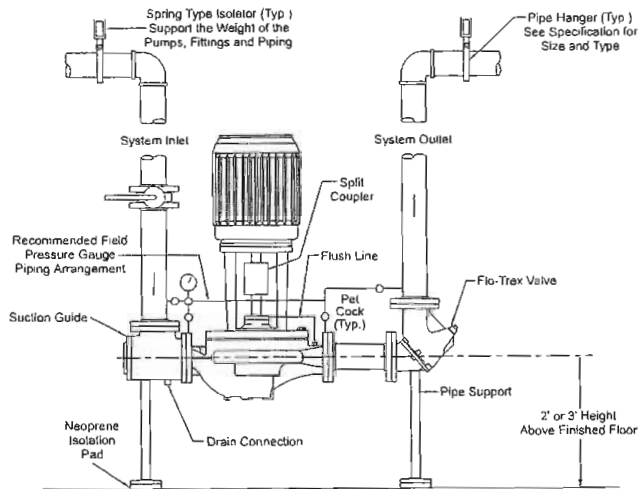
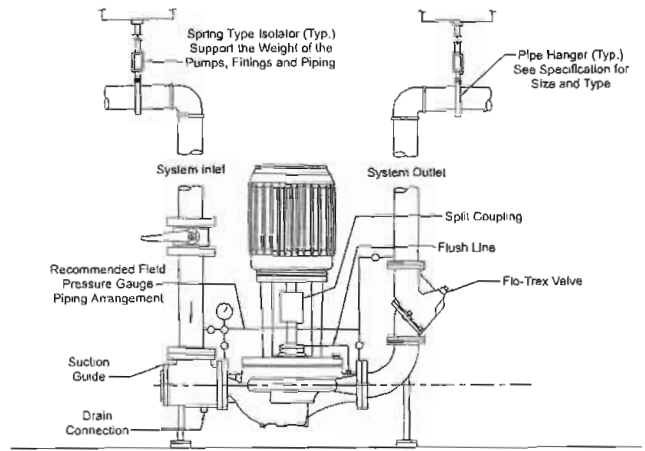

Fig. 2.1a Recommended Installation
Fig. 2.1b Alternative Arrangement to Reduce Footprint
- 2.1. Piping supported at ceiling with additional floor mounted pipe-stools, isolated from the structure by 'waffle' isolation pads, under the Armstrong Suction Guide and Flo-Trex Valve. (Fig. 2.1a) The majority of Series 4300 pumps are installed in this manner. Should additional space saving be required the discharge spool piece and Flo-Trex valve may be replaced by a long-radius elbow and the Flo-Trex valve field converted to a straight-through valve and installed in the vertical discharge pipe. (Fig 2.1b)